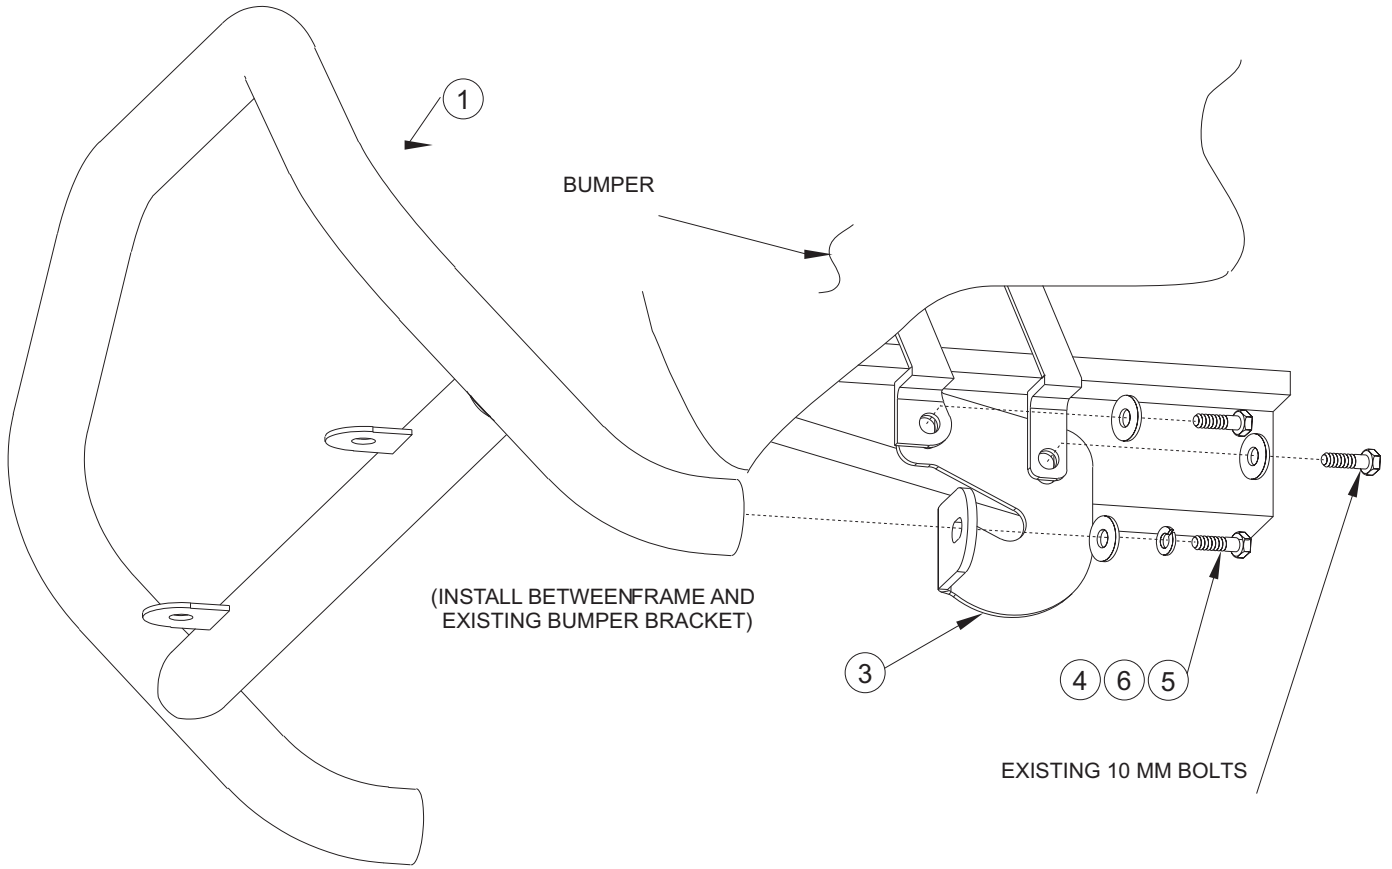

FIGURE 1 INSTALLATION VIEW OF DRIVER SIDE SHOWN, PASSENGER SIDE OPPOSITE
- STEP 4. Attach bracket between frame and existing bumper bracket where bolts were removed and reinstall bolts. Hand tighten. Repeat for opposite side of vehicle. **SEE FIGURE 1.**